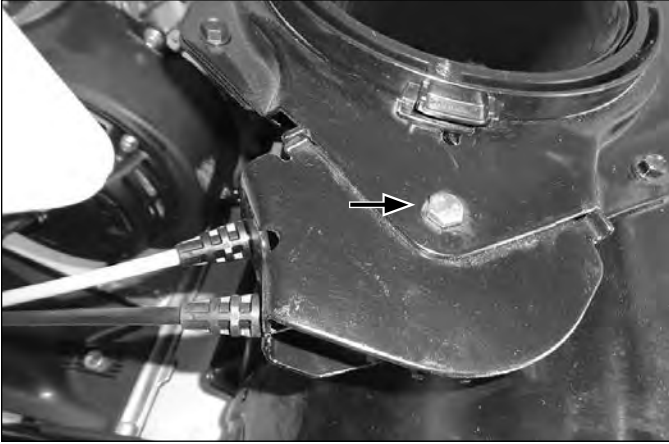

Fig. 021
1. Remove the bolt holding the quick chute gear assembly to the chute housing (Fig. 021).